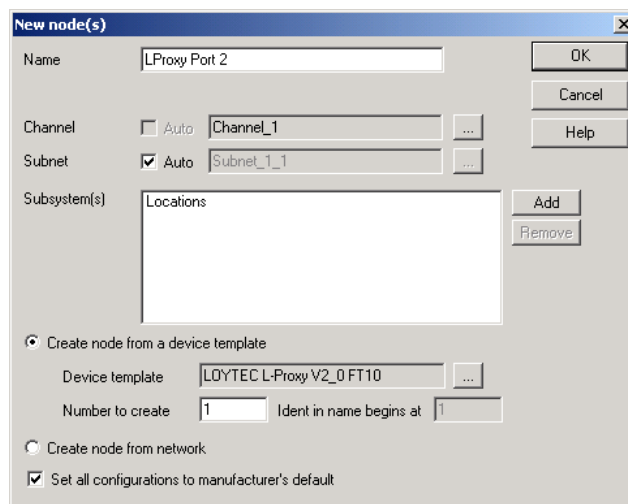

Figure 69 Adding a new L-Proxy port (Port 2) to the network.
3. In the dialog from Figure 69 specify a device name for the new device.
- Select **Geräte** and choose **Neues Gerät**. The Dialog in Figure 69 is shown.